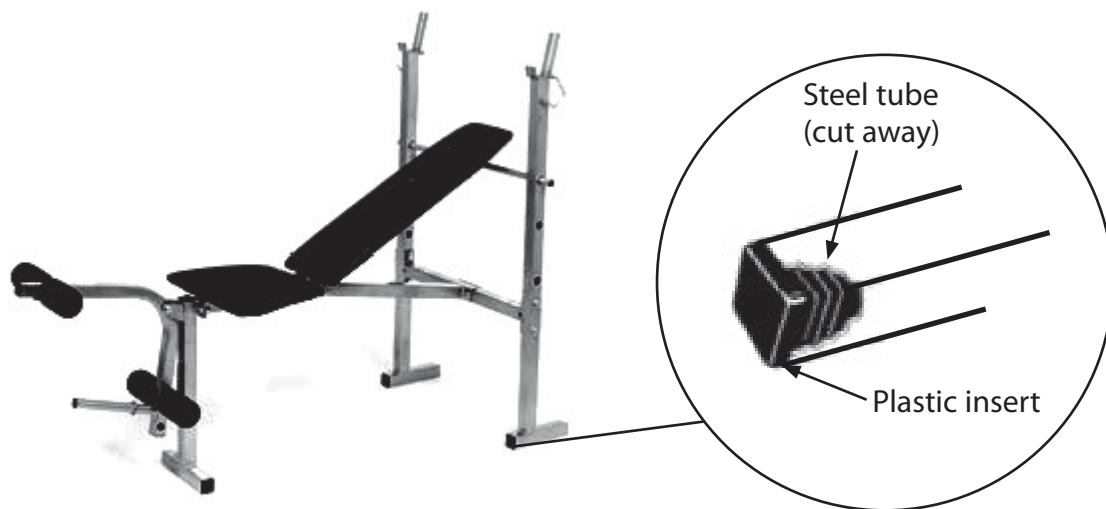

Figure 1
- 2 Figure 1 shows a piece of exercise equipment with an enlargement of the plastic inserts used in the ends of the steel tubes.